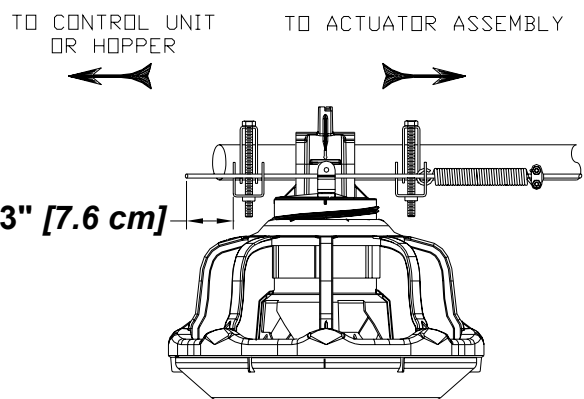

Figure 69. Trim excess actuator wire at control/hopper
8. With the brood in the open position. Go to the control unit or hopper end to trim the extra actuator wire. Leave **3 inches [7.6 cm]** of excess wire past the spring bracket, see figure 69.